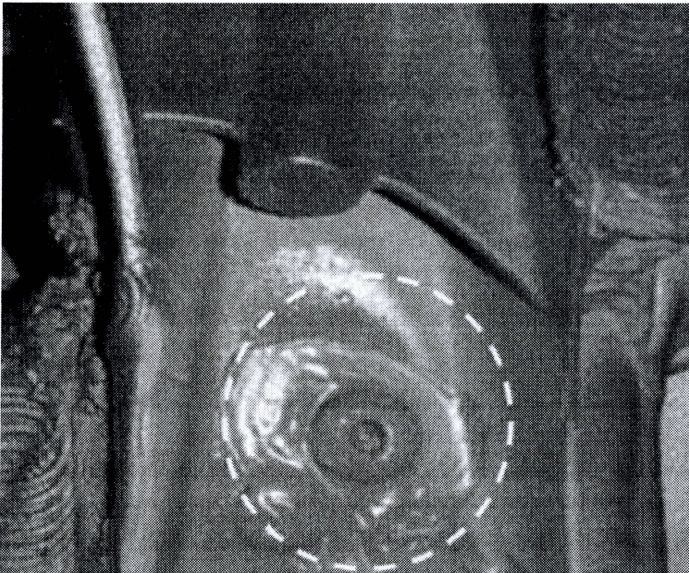

Figure 4
6. Seal rivet point with body sealant and touch-up with touch-up paint pen (Figure 4).